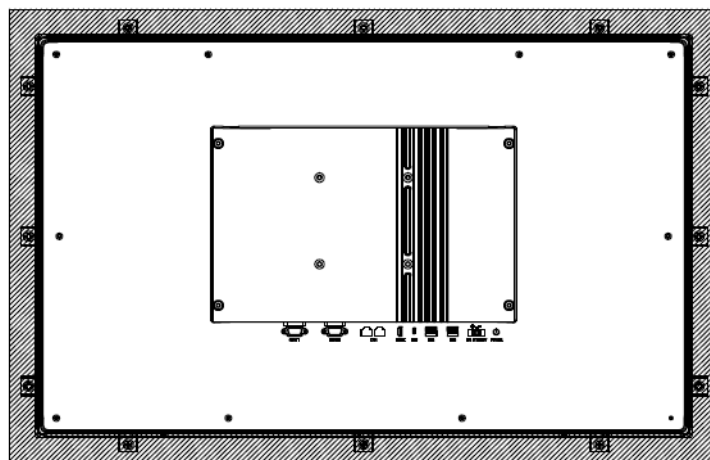

Figure 2.25 Panel Mount Rear View
3. Insert the hook brackets into the holes following the direction of the arrows shown in Figure 2.25 and hang the panel PC.